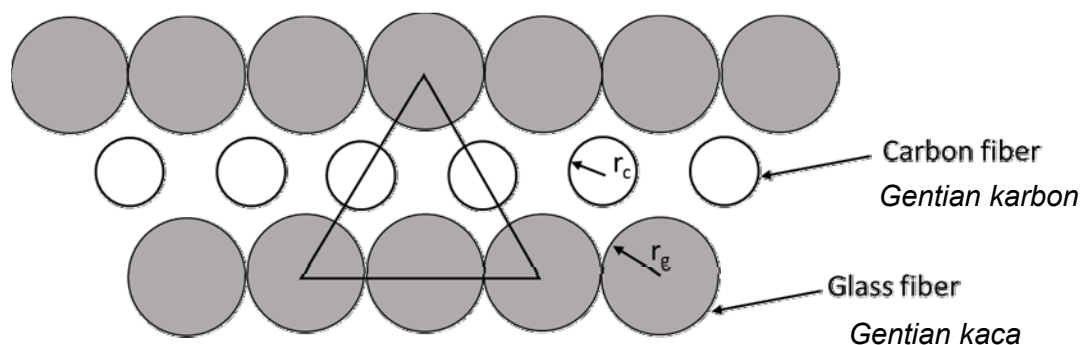

Figure 5: Fiber packing arrangement of a composite.
- (b). The maximum fiber packing arrangement for a composite with two different fiber types and size is shown in **Figure 5**. Both fibers are arranged in equilateral triangle arrangement. Compute the maximum fiber volume fraction for i) the glass fiber and ii) the carbon fiber. The diameter of the glass fiber (r_g) is $13\ \mu\text{m}$ and the diameter of the carbon fiber (r_c) is $8\ \mu\text{m}$.